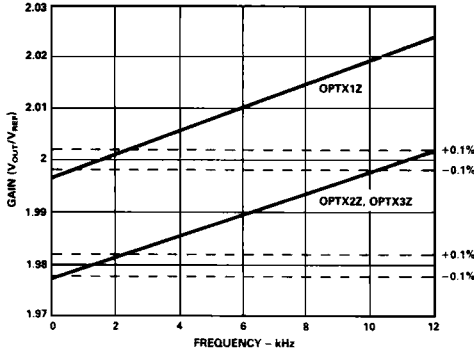

Figure 4. Gain (V_{SIN} , V_{COS}/V_{REF}) vs. Frequency
The gain (input to output SIN, COS voltages) of the standard part is $\times 2 \pm 0.1\%$ (Option X1Z) over the frequency range dc to 2.6 kHz. As can be seen from Figure 4, the gain at 10 kHz is $\times 2.02 \pm 0.1\%$.
2.6 kHz. From Figure 4 can be seen that the gain for the autonull part is typically $\times 2 + 0.1\%$ at 10 kHz.